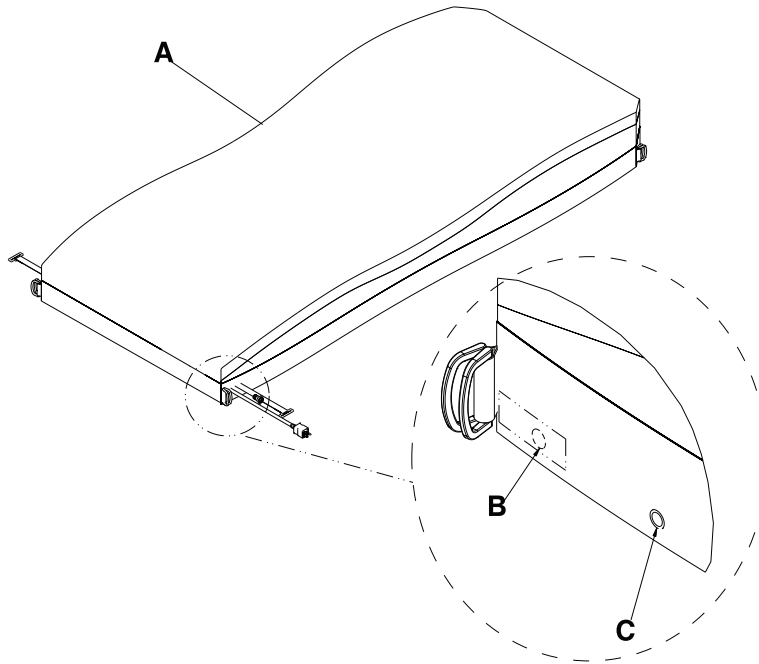

Figure 1-9: Top cover
5. Unsnap the two secure snaps (C) at the foot end corners (Figure 1-9 on page 1-34).
6. Unsnap the four corner retainers (B) (Figure 1-9 on page 1-34).
8. Unzip the support surface top cover from the bottom using the zipper pull tool or equivalent (A) (Figure 1-9 on page 1-34).